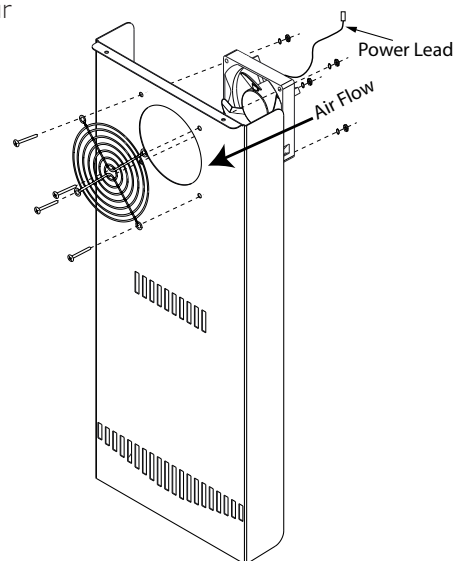

Figure 2: Remove Fan Assembly from Evaporator Cover
5. The fan and fan guard are held to the evaporator cover with four screws. Remove the four screws held in place by four lock washers and four nuts. (See Figure 2)